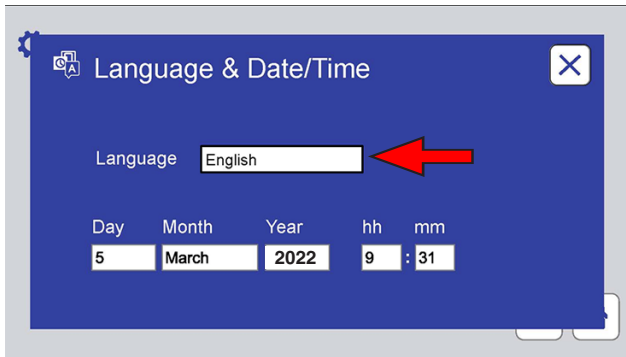

Figure 11.7i: This screen displays controls to select the control interface language.
- o Language & Date/Time (Figure 11.7i & Figure 11.7k). Controls can be displayed in any of seventeen (17) different languages: